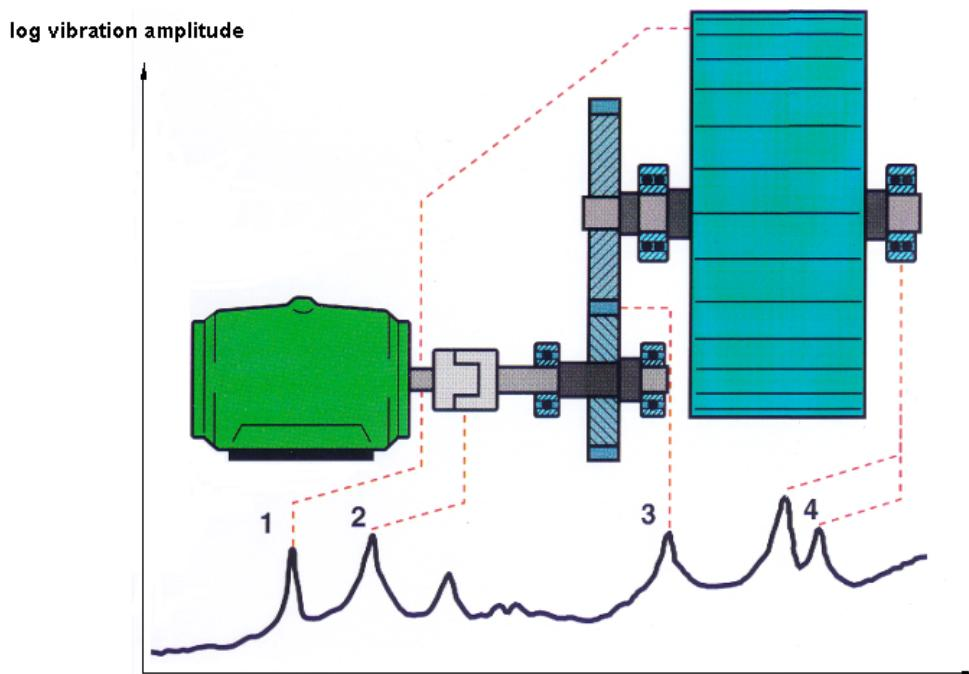

Figure 3 Discrete machine frequencies show different defects
It is sometimes useful to know the Dominant Frequency of Vibration of a machine that has several rotating parts, consider, for example, a belt driven blower. The dominant frequency will reveal which part of the machine is causing the most vibration. Vibration measurements taken with the Model IRD306DI are overall vibration readings or the vector sum if all the vibration at the point the sensor is applied. Measurements taken on the motor bearings would include vibrations of the motor plus vibration from the pump transmitted through the gear box and mounting structure. Conversely, measurements taken on the pump bearings would include vibrations of the gear box plus vibrations transmitted from the motor (See Figure 3). In many cases the point with the most vibration would pinpoint which part has the trouble, but not always.
The Figure 3 can be used to find the dominant frequency of vibration provided the readings taken are steady, i.e. the readings do not fluctuate more than 10%.
For example, in Figure 3, the motor runs at 1,750 RPM and the fan at 2,600 RPM.
For example, in Figure 3, let us assume motor runs at 1750 RPM and the pump at 5250 RPM. If the measurements taken on the motor are: displacement (D) = 24 microns and velocity (V) = 6.59 mm/s. Then the dominant frequency is: